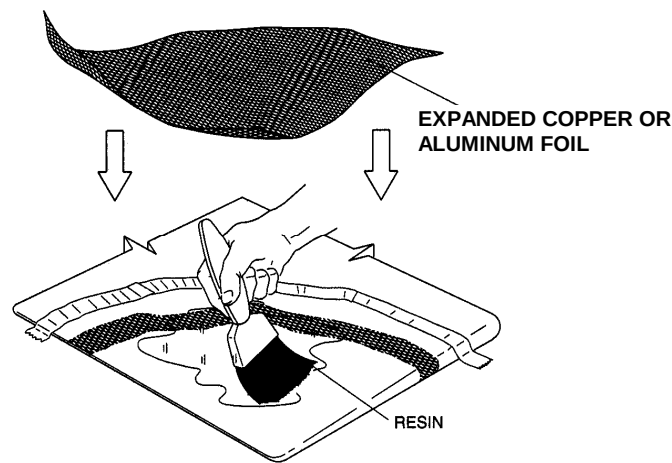

FIGURE 4: EXPANDED COPPER OR ALUMINUM FOIL
6.1.8 Remove bagging film from repair area and apply a thin coat of EA9396 to the entire repair area surface. See Figure 4.